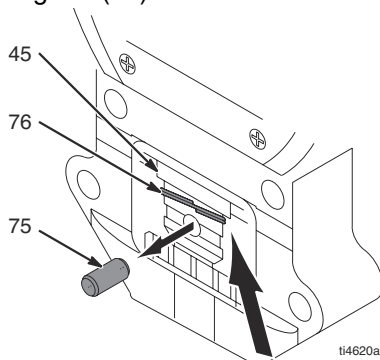

FIG. 9
8. Fig. 9. Slowly rotate fan blade on back of motor until connecting rod (45) near bottom of stroke.